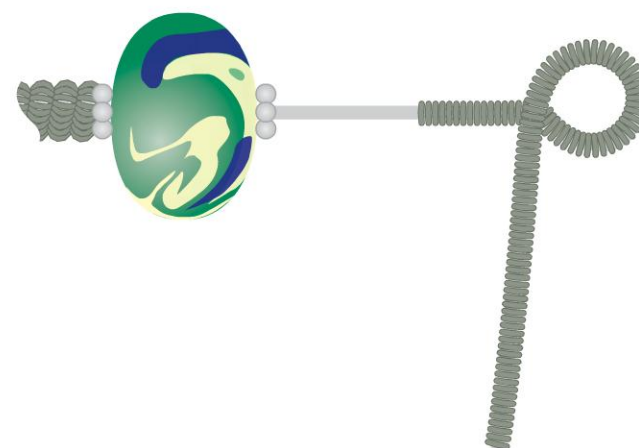

figure 4
- 9 Use the wide part of round-nose pliers to form a loop, again being careful to not squeeze the pliers hard (Figure 4).